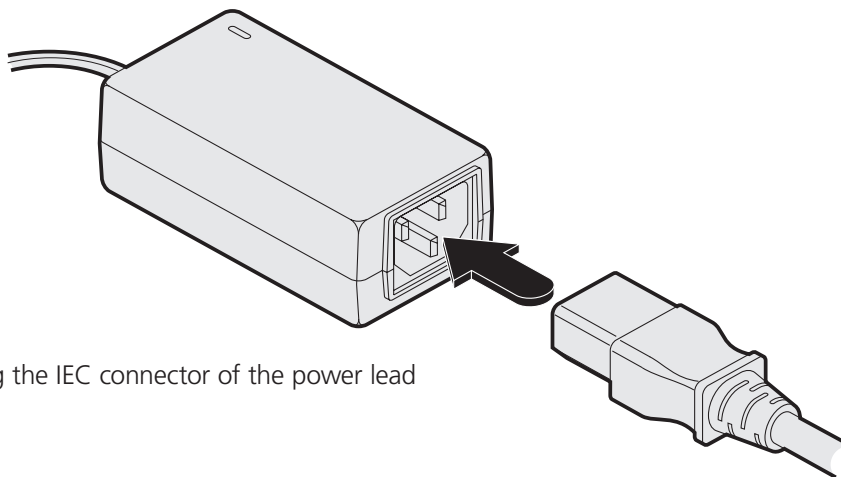

Figure 3-13. Inserting the IEC connector of the power lead
- 2 Insert the IEC connector of the separate power lead into the corresponding socket of the power adapter. See Figure 3-13.